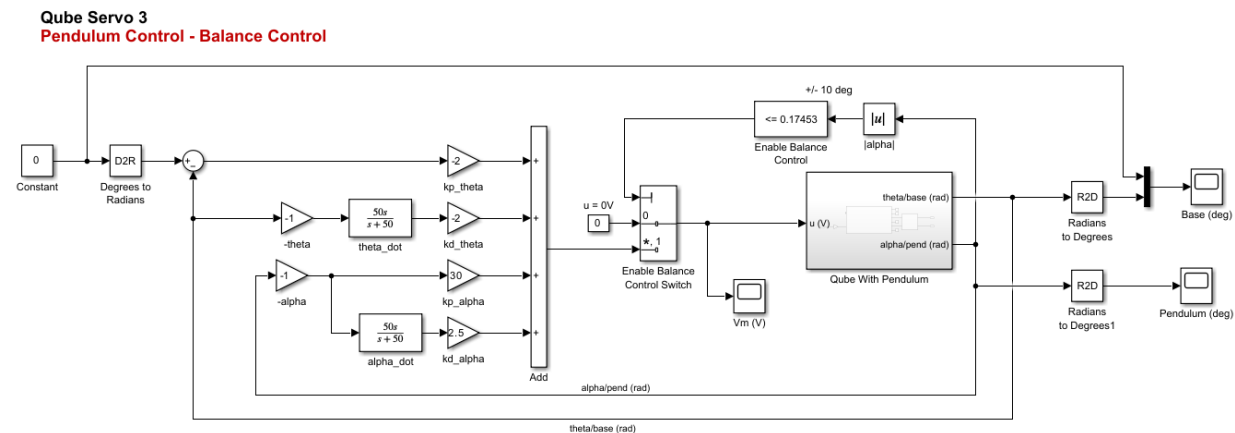

Figure 1: PD control to balance the pendulum
In this lab you will use the qs3_balance.slx file to complete the model as shown in Figure 1. This model will be a PD controller to balance the pendulum.
6. Your system should now look like the model in Figure 1.